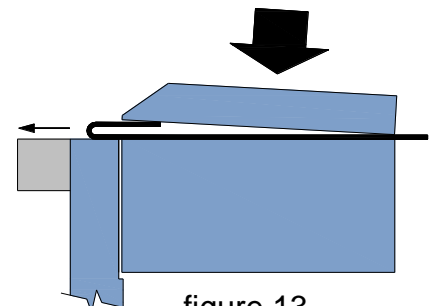

figure 13
3. To further flatten the material, slide the piece part forward about 1/2" and use the bar to magnetically clamp it as shown in (fig. 13)